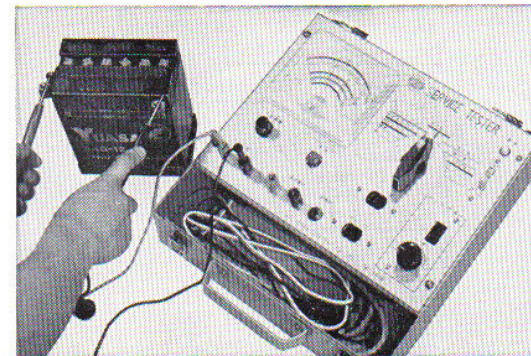
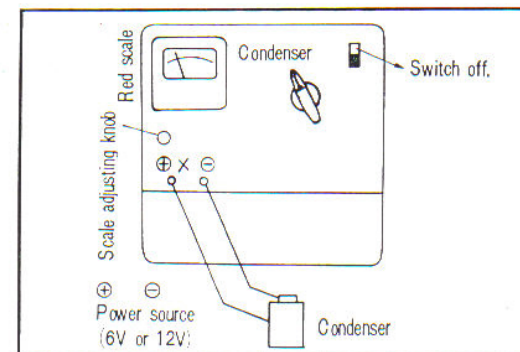

Fig. 5.99 Condenser capacity measuring
Fig. 5.100 Condenser capacity measuring connection
- (1) The method of measuring is the same as for the insulating resistance measurement. (Fig. 5.99)
- (2) Attach the test wire lead to the condenser.
- (3) The meter pointer swings to the right. Read the pointer indication and multiply that value by μF . That is the capacity (microfarads). (Fig. 5.100) Generally, if the value is from $0.21 \mu F$ to $0.26 \mu F$, it is satisfactory; if less than $0.21 \mu F$, the capacity is insufficient or the condenser defective.